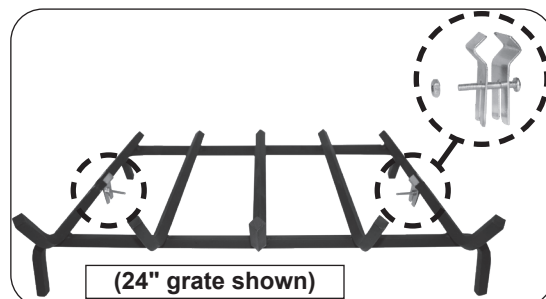

Fig. 11-1 Attach stabilizer clips to grate
1. Locate the grate (outside of the fireplace) and attach the stabilizer clips to the 2 outer bars of the grate using the provided screws and nuts (see Fig. 11-1 and Fig. 11-3). The stabilizer clips should be positioned toward the middle of the outer bars and oriented as shown in Fig. 11-1. Tighten the clips in place.